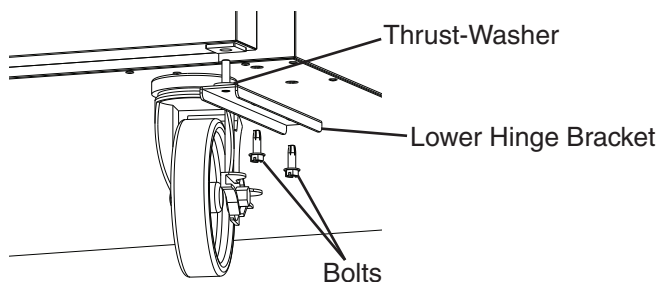

**Fig. 7**
- 2) Open the door to the fully open position, then remove the inner screw from the upper hinge bracket. See Fig. 7.